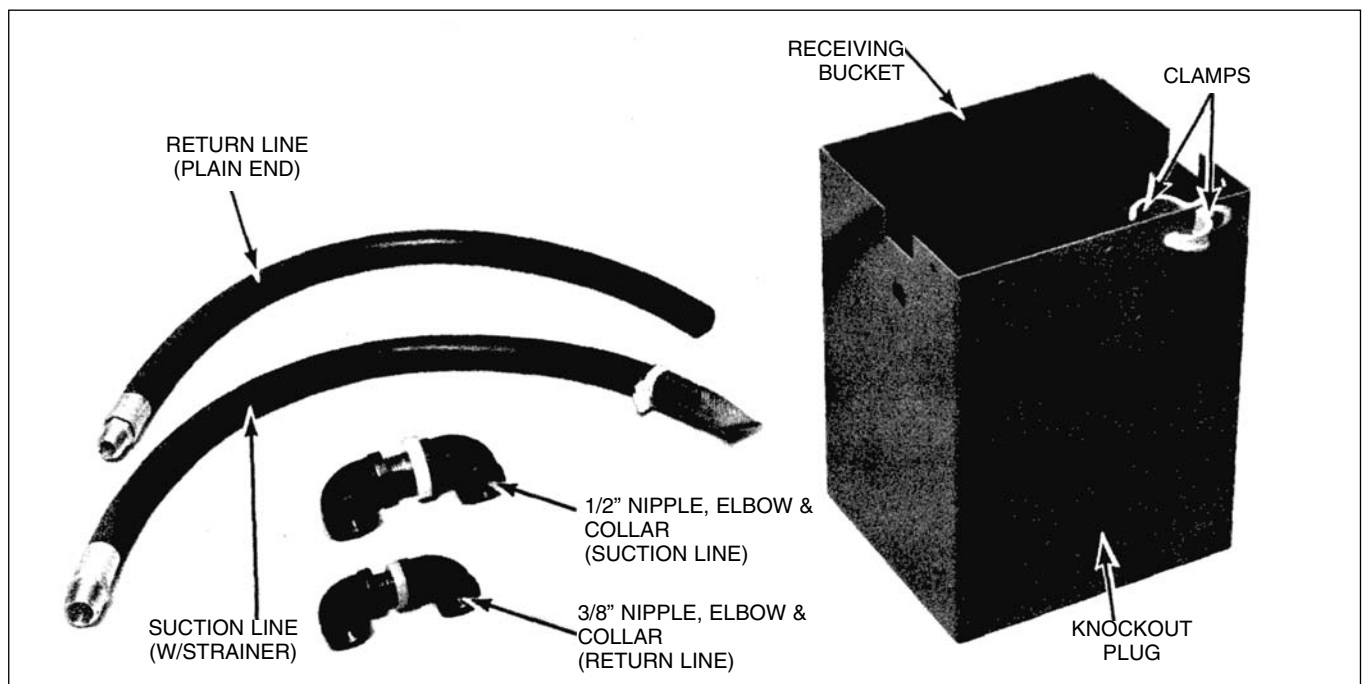

FIGURE 1-2, PF-165 Installation Kit
5. Open Accessory Pack and inventory contents (*see Figure 1-2*).